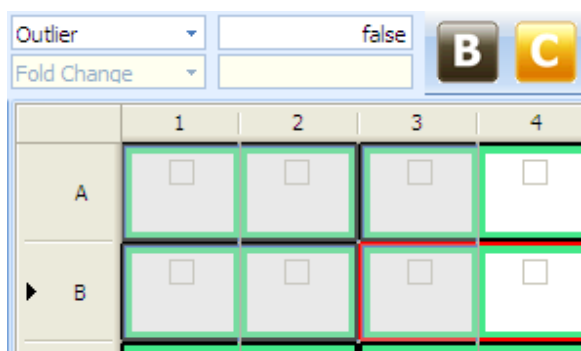

Figure 4.22 Flagging outlier
2. Select multiple wells you want to set the dilution at one time (Figure 4.22).